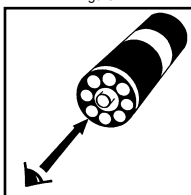

Figure 3
5. Obtain a test result by placing the ampoule, flat end first, into the comparator. Hold the comparator up toward a source of light and view from the bottom. Rotate the comparator until the best color match is found (fig. 3).